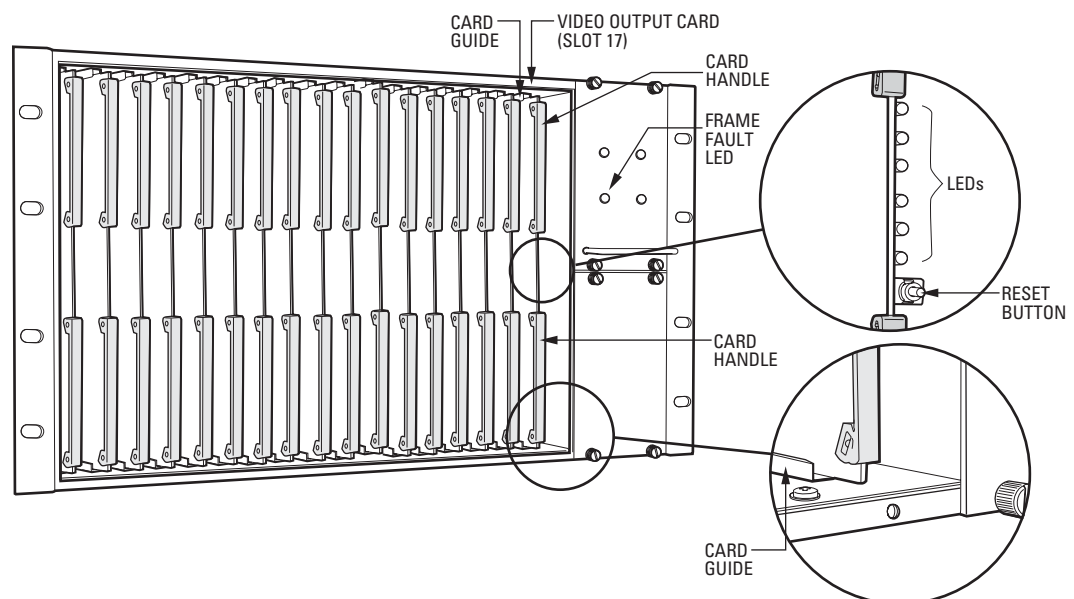

Figure 2. Video Output Card (Slot 17)
2. Remove the video output card from slot 17 of the matrix bay (refer to Figure 2). To remove the card, grasp the two card handles and firmly pull the card out of the connectors on the backplane and associated rear panel card. The video output card slides out of the slot. Note that, unless the audible alarm on the power supply has been disabled, the alarm beeps when the video output card is removed.
5. Reinstall the video output card into slot 17 of the matrix bay (refer to Figure 2):
6. To ensure proper operation of the matrix bay, reset the video output card by pressing the **Reset** button on the card (refer to Figure 2). For about five seconds, the audible alarm on the power supply beeps and the Frame Fault LED flashes red. Normal operation is established when the audible alarm stops beeping, the Frame Fault LED turns off, and the LEDs on the video output card indicate proper operation of the matrix bay.